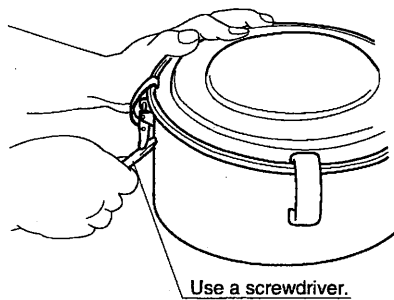

Fig. 46
- (1) Replace the suction filter at every 2000 hours of operation. (Figs. 46 and 47)